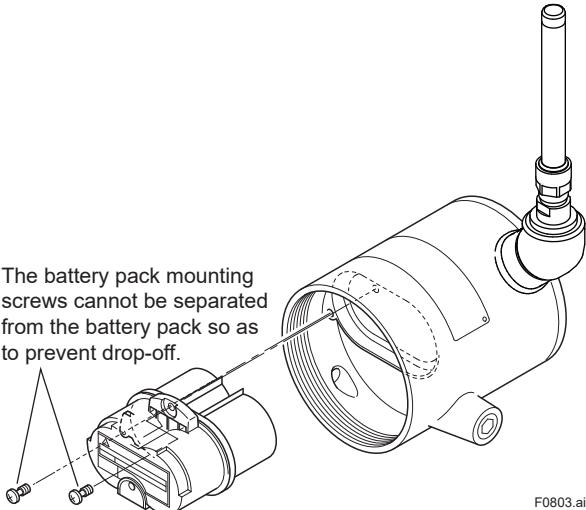

Figure 8.3 Removing the Battery Pack
- 2) Loosen the two battery pack mounting screws (see Figure 8.3).
- 3) Loosen the two power supply module mounting screws (see Figure 8.3).